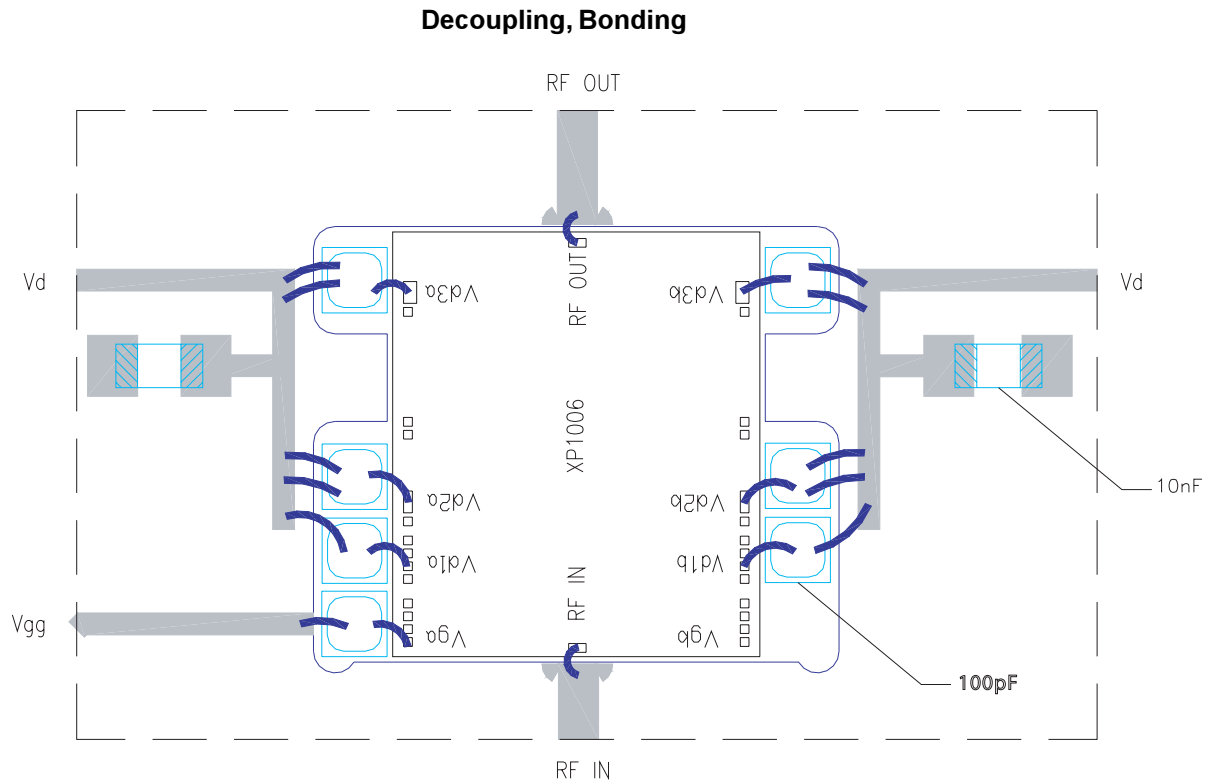

Figure 4: XP1006 Example of Decoupling/Bonding
- a) Place 100pF single layer capacitors close to the MMIC as shown in Figure 4
- b) Place 10nF single layer or surface mount capacitors close by the 100pF capacitors as shown in Figure 4
- c) All drains can be combined on each side, and then the two sides combined at a convenient point away from the MMIC. See Figure 4